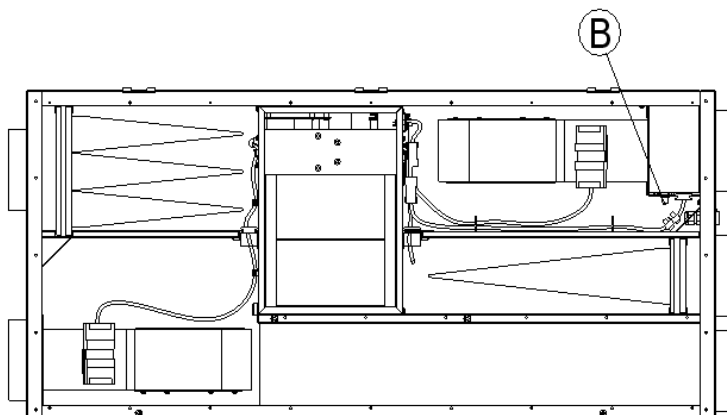

Fig. 10
- b. Check if fire thermostat is still alert. If necessary, reset by pressing the red button “B” (fig.10) in the unit.